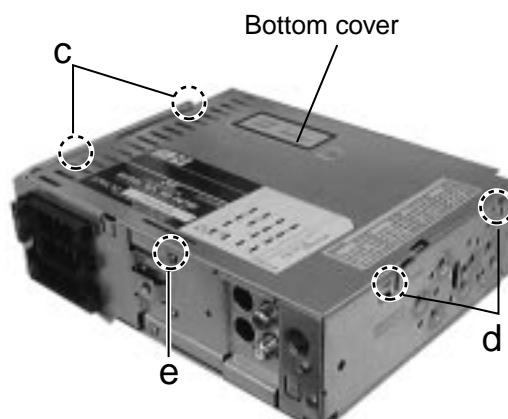

Fig. 4
■ Removing the bottom cover (See Fig.4)
- The bottom cover (Refer to Fig.4)